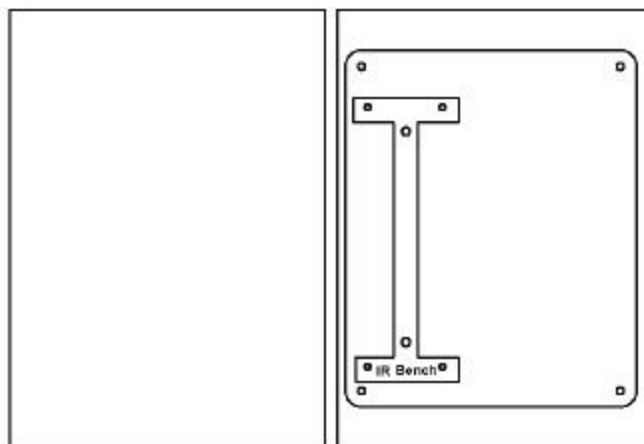

Figure 3 Infrared Bench
**Infrared Bench:** Refer to the figure 3 for Infrared Bench diagram. The infrared bench has an integrated source circuit with infrared source at one end and an integrated detector circuit with filter and detector at the other. Presence of refrigerant in the sample air will cause a change in the output of the detector.